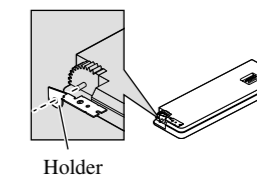

Fig. 10
**1. Attach the holders to both sides of the front panel. (Fig. 10)**